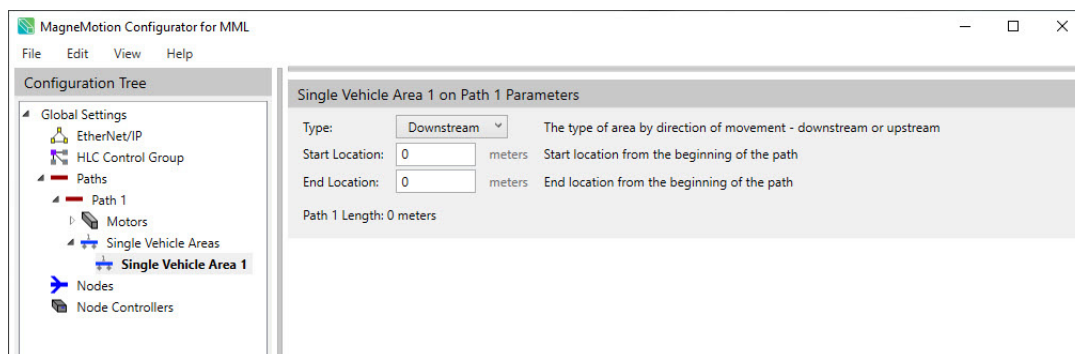

Figure 4-130: Single Vehicle Area Page
*The **Single Vehicle Area Details** page for the selected SVA is displayed in the Configuration Settings Pane, see Figure 4-130. This page identifies the path that the SVA is associated with.*